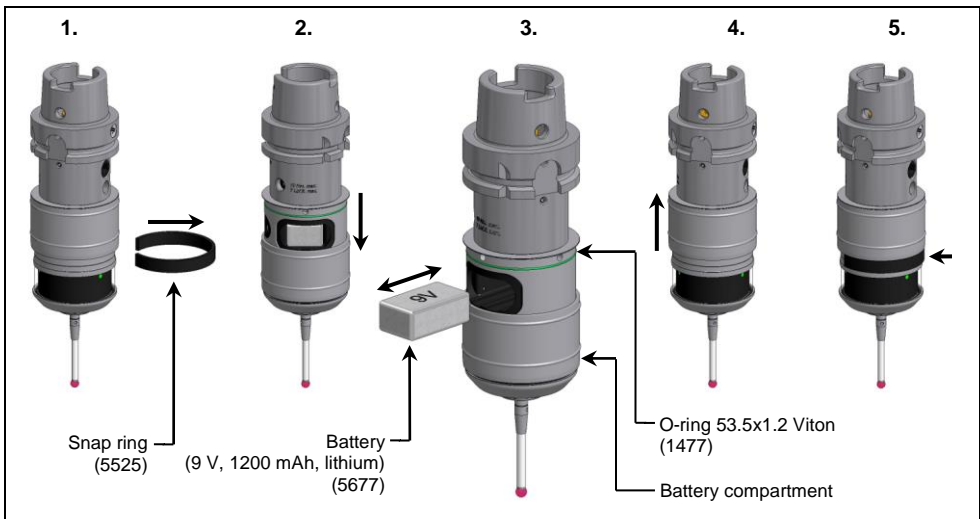

Fig. 10 Battery replacement
1. Laterally pull the snap ring off from the probe (1./Fig. 10).
2. Carefully slide the battery compartment sleeve down (2./Fig. 10).
3. Take the used battery out of the battery compartment and insert a new battery (3./Fig. 10).
4. Carefully slide the battery compartment sleeve upwards (4./Fig. 10).
5. Position the snap ring at the probe laterally and slide it over the probe (5./Fig. 10).